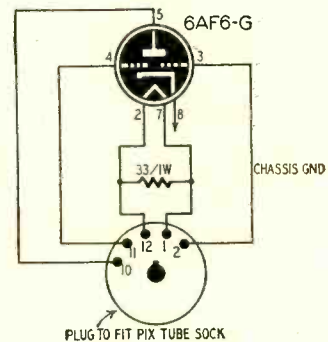

Fig. 1-a—6AF6-G is wired to plug.
or similar twin-beam electron-ray tuning indicator can be used to check the voltages at the picture-tube socket. The diagram is shown in Fig. 1-a. The 6AF6-G socket is wired to a plug which fits the picture tube socket.
The performance of the kinescope and associated receiver circuits can be checked by inserting the checker into the socket on the receiver. Indications are as follows: (1) A glowing heater indicates the presence of heater voltage on the C-R tube socket. (2) A bright green glow on the target indicates the presence of first anode voltage. (3) One of the shadows will have sharp areas as in the lower half of Fig 1-b. A properly functioning brightness control will cause the shadow area to vary as the control is rotated. (4) One-half of the target area will have fuzzy or blurred edges as in the upper